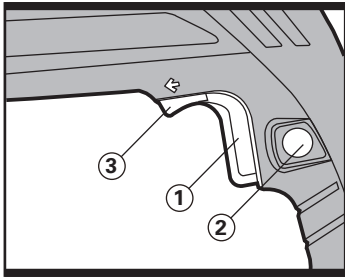

Fig 1
Depress ON/OFF switch (1) then lock-on button (2) (See Fig 1), release ON/OFF switch first and lock-on button second. Your switch is now locked on for continuous use. To switch off your tool just depress and release the ON/OFF switch.